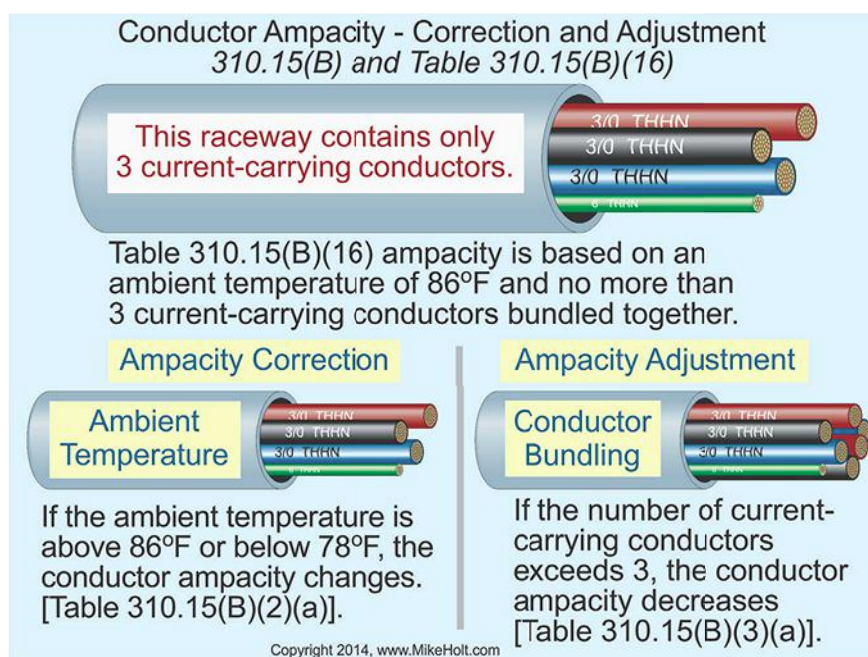

Fig. 1. Ampacity correction and adjustment factors are based on the ampacity rating of the conductor insulation per Table 310.15(B)(16).
consider finding what appears to be the “trunk” of the system. This will be the area where the majority of the current will be carried. The most effective place to have an altered conductor size will be in this area. Leaving that conductor large and decreasing the conductor size in the less heavily loaded branches will allow for the most effective gains. Node 6 in Fig. 1 is the last node with branches and could represent the end of the “trunk”. For example, 8 AWG wire could remain in segments 1 through 6, and 10 AWG wire could be used for all the remaining branches. The resulting voltage drop over the branch circuit will approach 2.98% but still remain within recommended design limits and Code requirements.
**Ampacity correction and adjustment.** Ampacity correction (ambient temperature) [Table 310.15(B)(2)(a)] and adjustment (bundling) [Table 310.15(B)(3)(a)] factors are based on the ampacity rating of the conductor insulation per Table 310.15(B)(16) (Fig. 1).